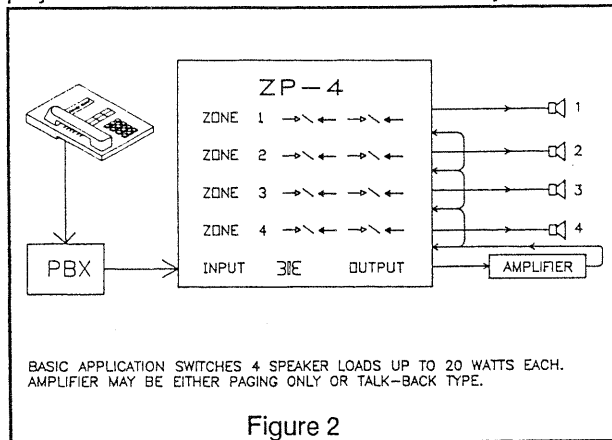

Figure 2
1) Switching the output of an amplifier to the speakers in each zone (Figure 2).